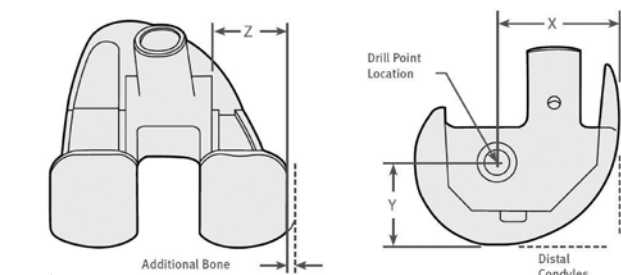

Fig. 149
- Locate and mark the drilling center point on the medial side of the bone at a distance of 'X' from the anterior flange and a distance of 'Y' from the distal condyle surface (Fig. 149).